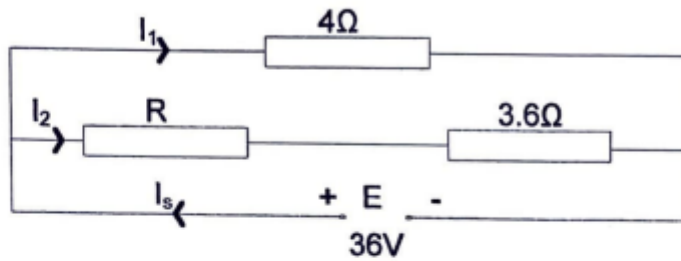

Fig Q7
- (i) inadequate air; (3)
- (ii) excess air. (3)
- (a) the brake power; (4)
- (b) the indicated specific fuel consumption. (4)
6. (a) With the aid of a P-h diagram, describe the condition of the refrigerant fluid as it flows around the basic vapour compression plant. (4)
- (b) List the energy changes that occur across EACH item of plant in the basic refrigeration system of Q6(a). (4)
7. The circuit shown in Fig Q7 is connected across a 36 V supply. The power dissipated in the network is 540 W.